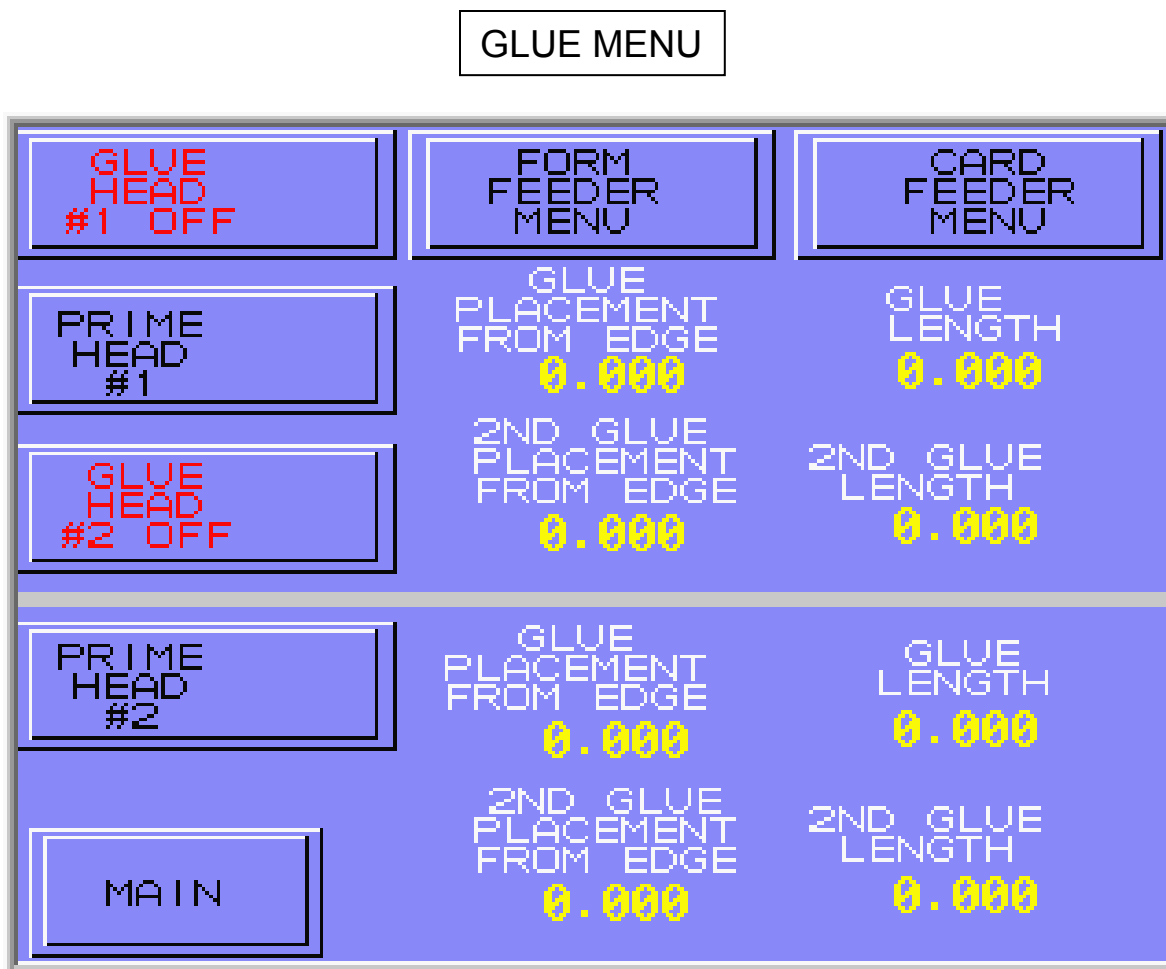

Figure III-20
5. The **GLUE MENU** SCREEN is now displayed on Human Machine Interface (HMI). See figure III-20.